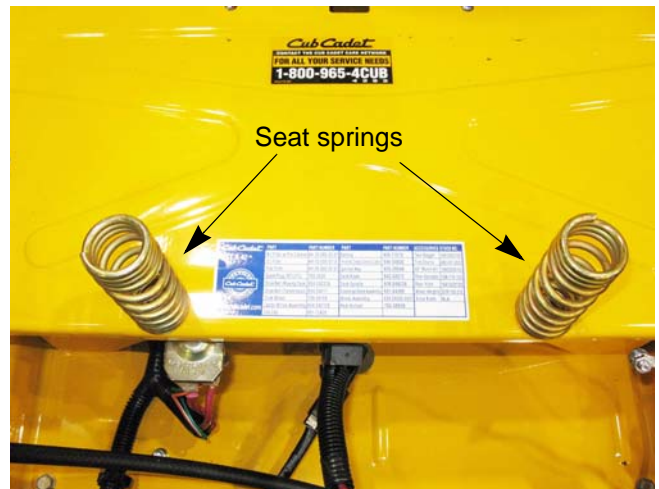

Figure 4.12
7. Remove both of the seat springs using a 1/2" wrench. See Figure 4.12.